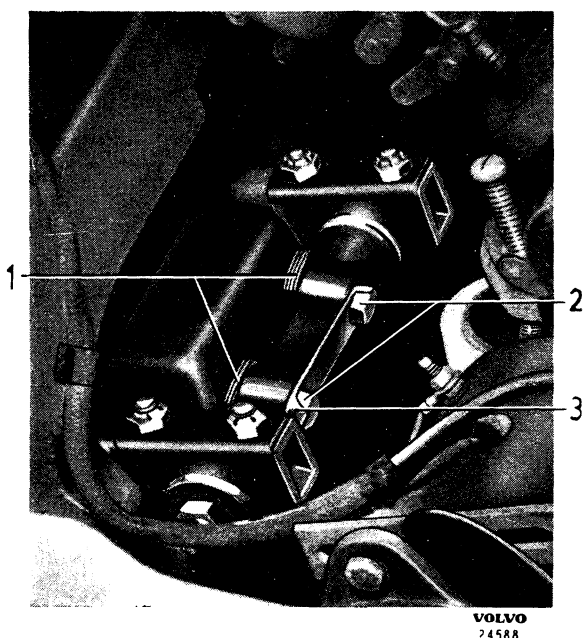
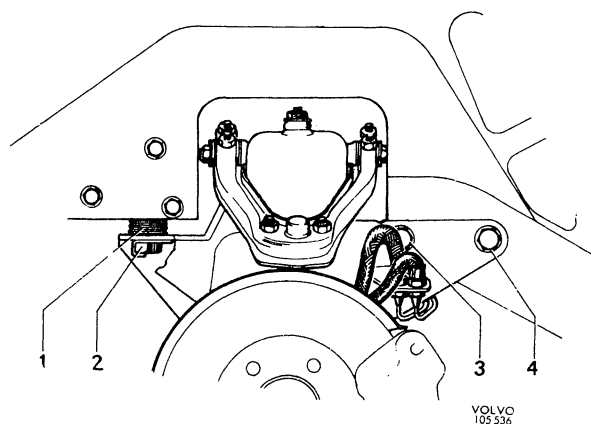
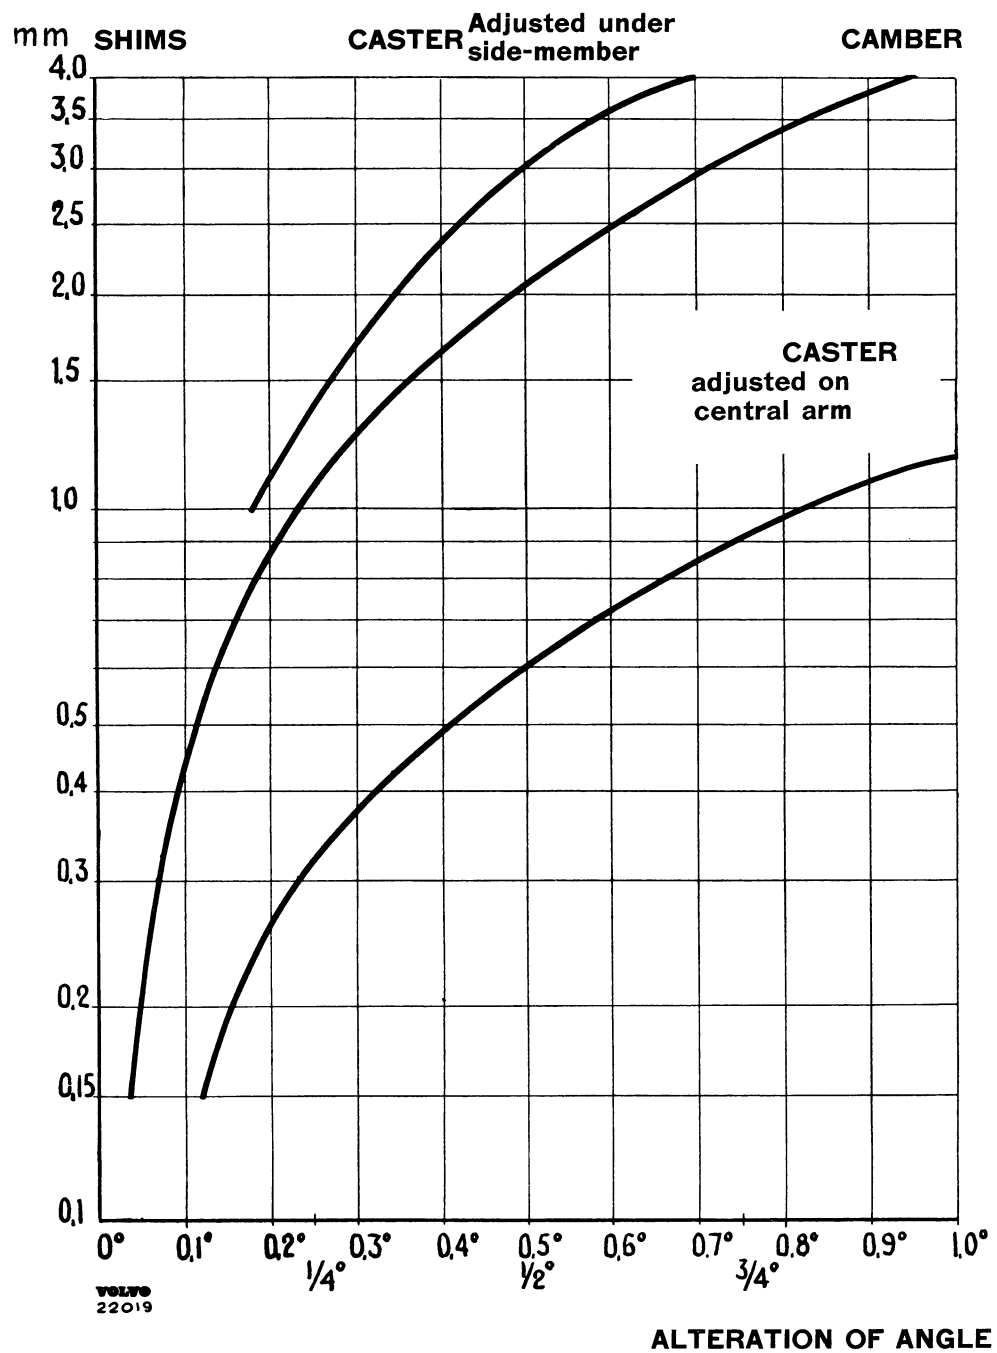

Fig. 6-7. Adjustment parts at wishbone shaft
Fig. 6-8. Adjustment parts at side-member
Fig. 6-9. Diagram for alteration of caster and camber
The caster can be adjusted either with shims (3, Fig. 6-7) at the wishbone shaft or with shims (2, Fig. 6-8) at the side-member. The first alternative is selected when the camber is also to be adjusted, and the second when only the caster is to be seen to.
Bend up the lock washer (3, Fig. 6-7) and slacken the attaching bolts (2) so much that the shims (1) can be lifted up. The caster is adjusted, for example, to **positive** either by **adding** shims to the **rear** bolt or by **removing** shims at the **front** bolt. The shim thicknesses required to alter the angle
to a certain extent can be seen from the diagram in Fig. 6-9. Shims are stocked in thicknesses of 0.15—0.5—1.0—3.0 and 6.0 mm (0.006—0.020—0.039—0.120 and 0.240"). The caster angle is altered to the same extent either by
Raise the front end and place props under the body at the jack attachments. Release the attaching bolts (2, 3 and 4, Fig. 6-8). Add or deduct the number of shims required in order to get the proper caster. Shims for this purpose are available in thicknesses of 2 and 3 mm (0.08 and 0.120"). The diagram in Fig. 6-9 shows how much the caster is to be altered. The same alteration should be made on both sides to avoid extra tension in the front axle member. Tighten the bolts before making a new measurement.
When adjusting bend the lock plate (3, Fig. 6-7) up and slacken the attaching bolts (2) so much that the shims (1) can be lifted up. Thereafter
Camber and caster are adjusted by means of shims between the upper wishbone shaft and its attachment in the front axle member (see Fig. 6-7).
8. Place a jack under the front axle member. Unscrew the front axle member attaching bolts (2, 3 and 4, Fig. 6-8). Take care of the shims (2).
2. Raise the jack so that the member comes into proper position. Fit the shims and tighten the bolts (2, 3 and 4, Fig. 6-8) properly.